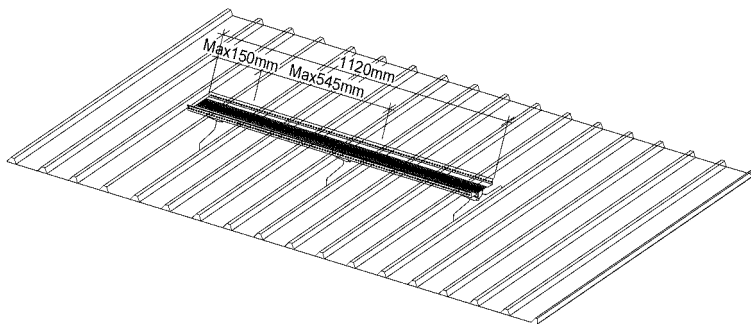

Figure 1.
- Attach the roof footbridge to the tilt adjustment plate using 2 M10x16 screws with a nut and washer. The maximum distance between the RP-bracket plates and platform ends is 150 mm (Figures 1 and 2).